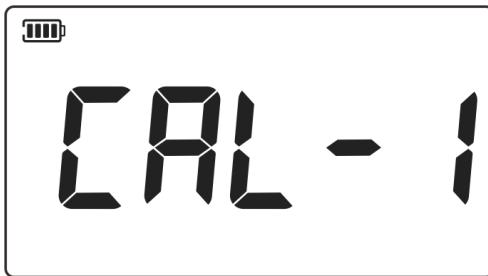

Figure 18 Calibration status menu
4. Start upper limit calibration, as shown in Figure 18. After the pressure stabilized, short press Enter button to confirm.
5. Now the calibration is completed, return to calibration status menu and it will show CAL-1, which indicates the calibration takes effect. As shown in Figure 18.